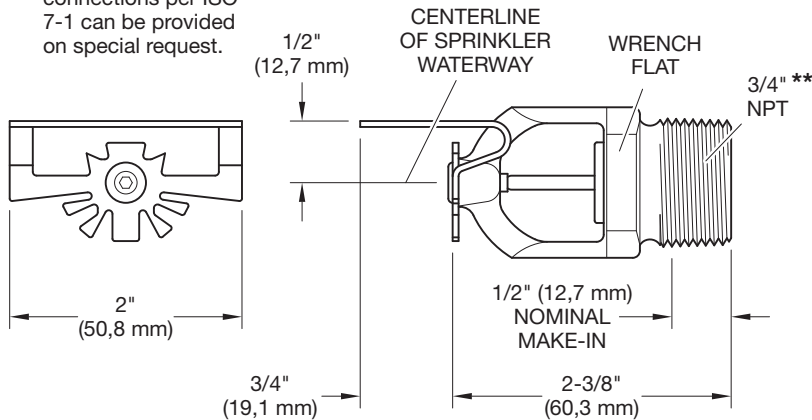
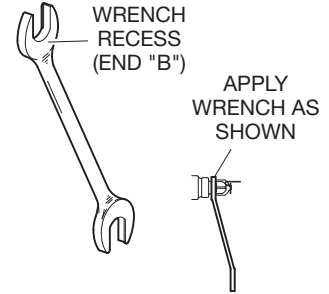

FIGURE 1
FIGURE 3
3. The centerline of the sprinkler waterway is located below the deflector as shown in Figures 1 and 2.
Step 3. Tighten the sprinkler into the sprinkler fitting using only the W-Type 3 (End B) Sprinkler Wrench (Ref. Figure 3). With reference to Figures 1 and 2, the W-Type 3 Sprinkler Wrench is to be applied to the sprinkler wrench flats